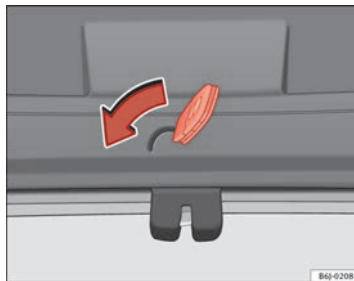

Fig. 50 Tailgate: emergency open
- Insert the key in the groove and unlock the locking system, turning the key from right to left, as shown by the arrow ⇒ fig. 50.